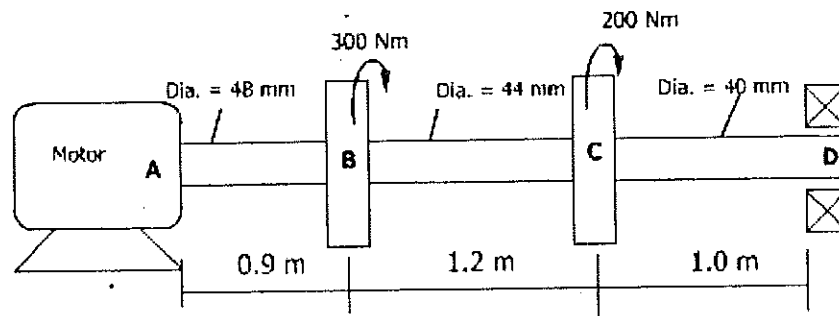

Figure Q6a
- Q6 (A) An electric motor drives a shaft that runs two belt drives. The torques to be overcome by the motor are shown in the Figure Q6a. The Modulus of Rigidity of the shaft material is 27 GPa.